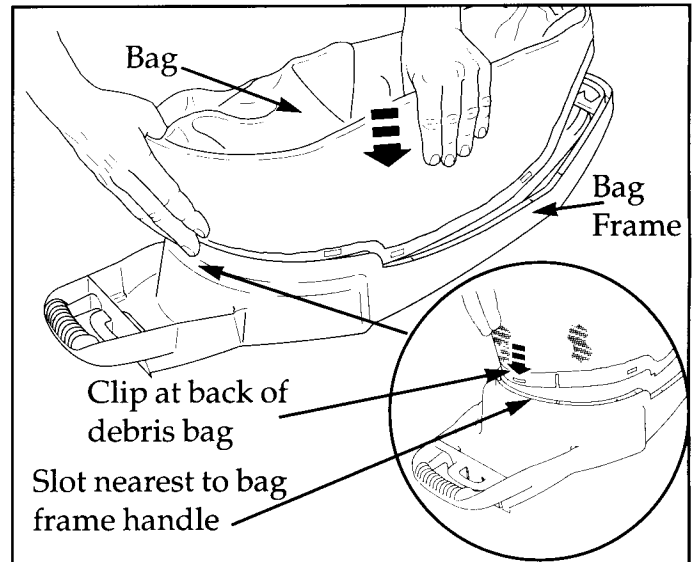

Figure 1
1. With the bag frame on the ground. Figure 1.
2. Locate clip at the back of the debris bag into the slot nearest to the bag frame handle and 'click' into place. Figure 1
3. Push remaining clips into the slots provided. Figure 1.